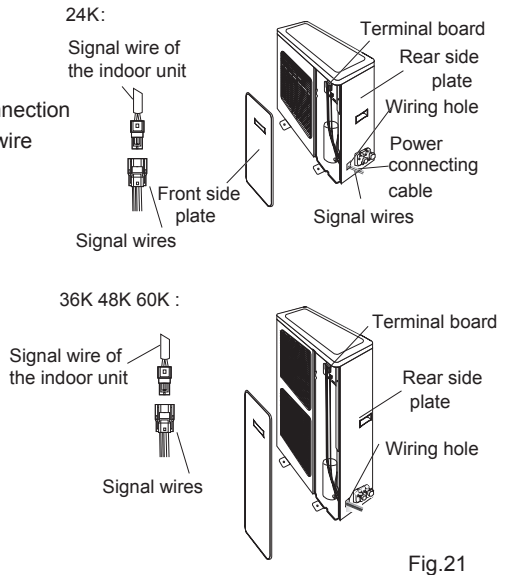

Fig.21
2. Please refer to the electric wiring connection of the indoor unit, then fix them with wire clamp. (As shown in Fig.21)